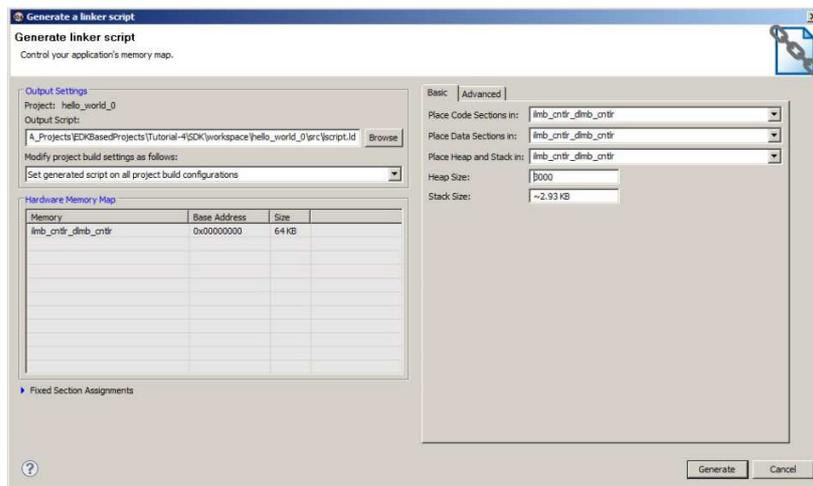

Figure 33. Generate Linker Script (Step 12)
**Step 12:** Again highlight “hello\_world\_0” and right click with the mouse. The same menu that appeared in Step 10 will appear again. This time choose “generate linker script”. A new window with the title “Generate linker Scripts” will appear as seen in Figure 33. Change both the Heap Size and Stack Size to 3000. Press “Generate”. This will increase the size of Heap and Stack to allow a medium sized code to be profiled properly. A message might appear “Linker Script Already Exists” and will ask you to overwrite the file! Press “Yes”. Again a message “Finished building: hello\_world\_0.elf.elfcheck” will appear on the console.